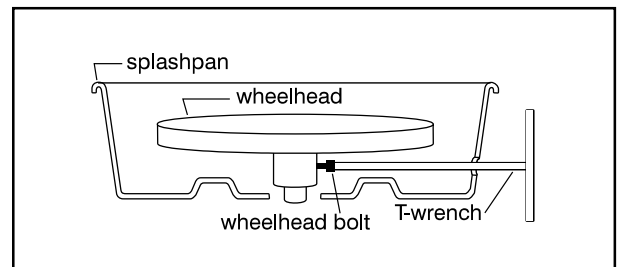

Figure 3
3. Using T-wrench (provided), loosen wheelhead bolt (figure 3).
11. Insert T-wrench through access hole and tighten wheelhead bolt (figure 3).